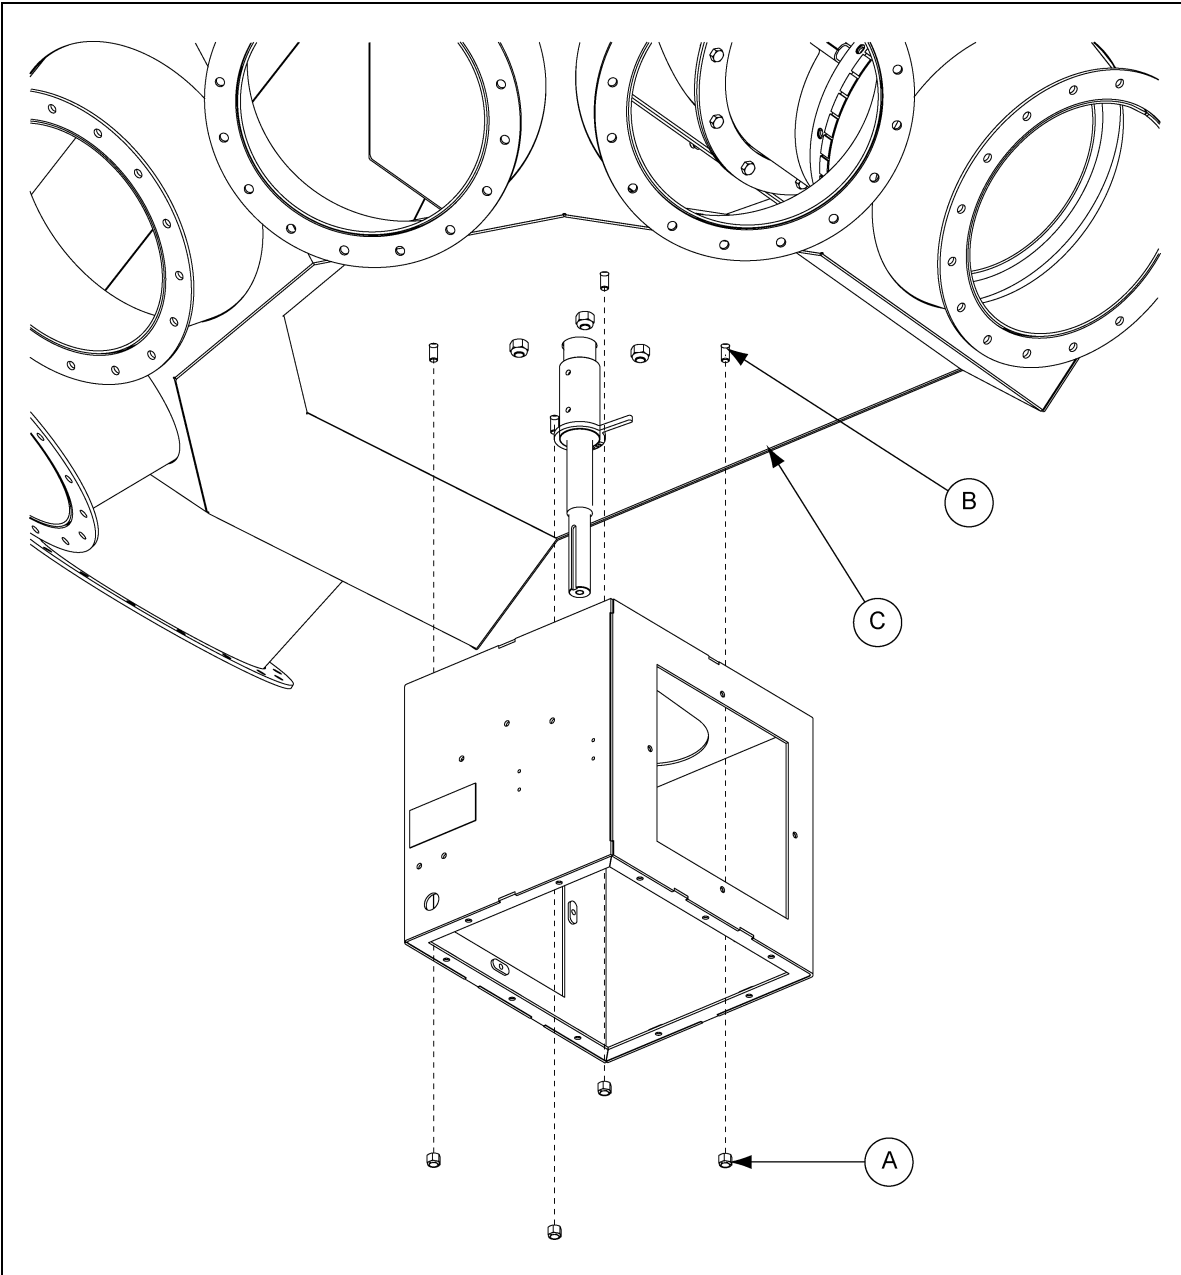

Figure 6B Electronic Distributor Enclosure
Install the enclosure (DEC0005) to the distributor (C) using four (4) 3/8 bolts (B) and nylock nuts (A). (See Figure 6B.) Note the orientation of the enclosure; the side with the two (2) large holes must face away from back wall of distributor (C). Controller will not work if installed backwards.